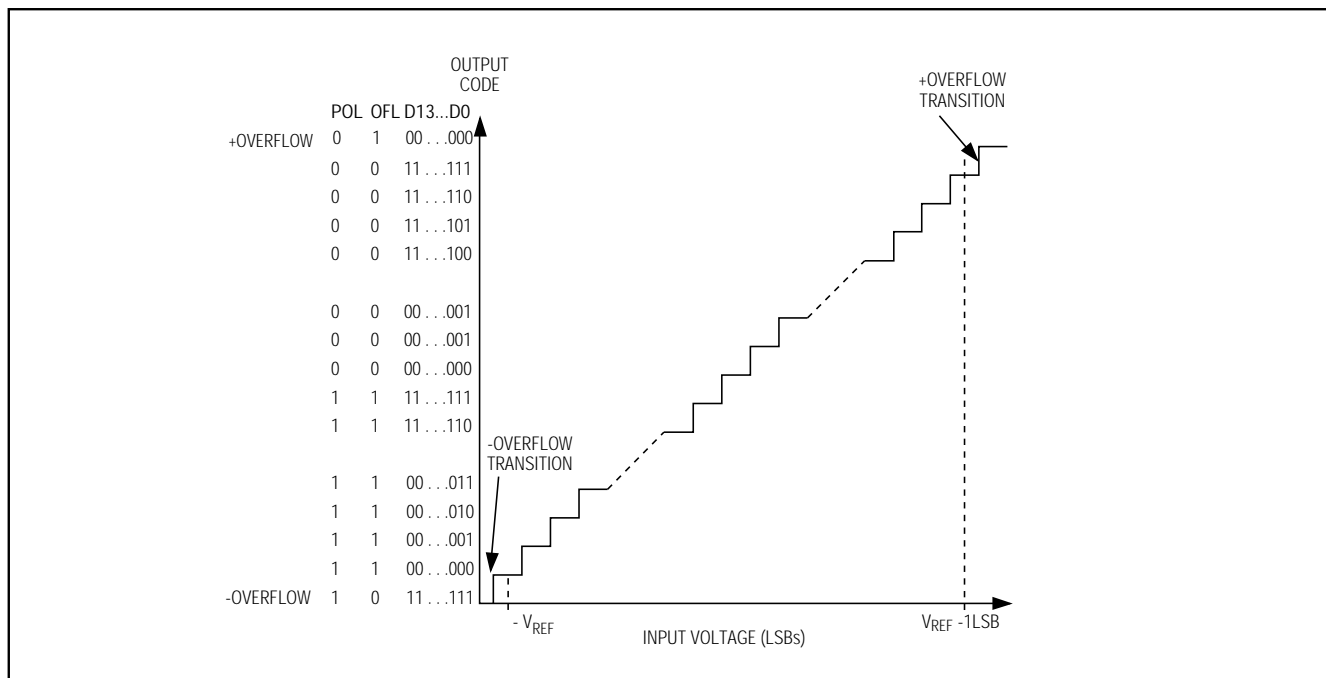
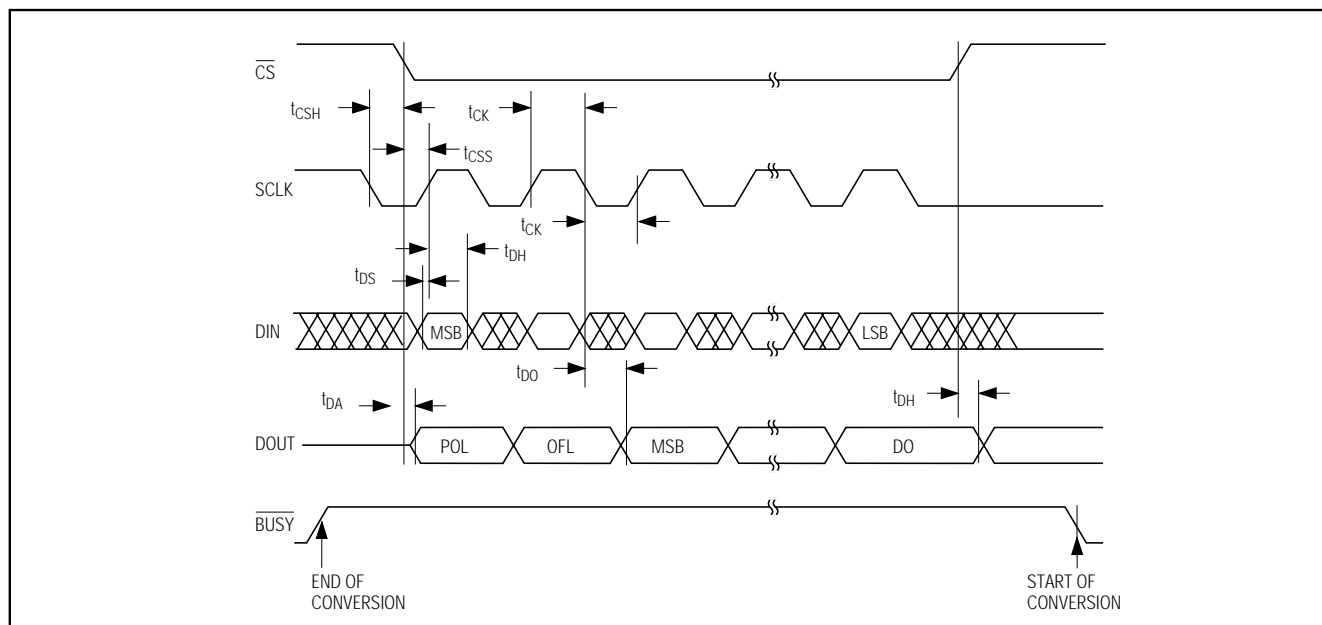

Figure 4. Differential Transfer Function
Figure 6. Detailed Serial-Interface Timing
The output data from the MAX110/MAX111 is arranged in twos-complement format (Figures 4, 5). The sign bit (POL) is shifted out first, followed by the overrange bit (OR), and the 14 data bits (MSB first) (see Figure 6). The MAX110 operates from $\pm 5V$ power supplies and converts low-frequency analog signals in the $\pm 3V$ range when using the maximum reference voltage of $V_{REF} = 3V$ ($V_{REF} = V_{REF+} - V_{REF-}$). Within the $\pm 3V$ input range, greater accuracy is obtained within $\pm 2.5V$ (see *Electrical Characteristics* for details). Note that a negative input voltage is defined as $V_{IN-} > V_{IN+}$. For the MAX110, the absolute voltage at any analog input pin must remain within the $(V_{SS} + 2.25V)$ to $(V_{DD} - 2.25V)$ range.
Data is transferred into and out of the serial I/O shift register by pulling \overline{CS} low and applying a serial clock at SCLK. This fully static shift register allows SCLK to range from DC to 2MHz. Output data from the ADC is clocked out on SCLK's falling edge and should be read on SCLK's rising edge. Input data to the ADC at DIN is clocked in on SCLK's rising edge. A new conversion begins when \overline{CS} returns high, provided the MSB in the input control word (NO-OP) is a 1 (see *Using the MAX110/MAX111 with MICROWIRE, SPI, and QSPI Serial Interfaces*). Figure 6 shows the detailed serial-interface timing diagram.